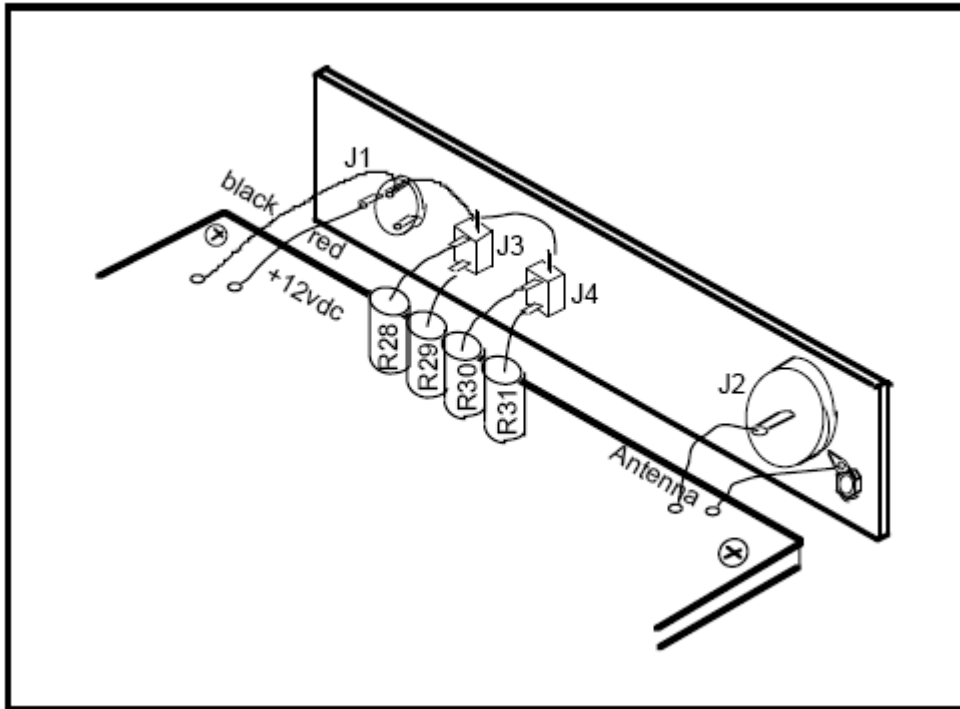

Figure 12. Rear panel wiring
14. □ Install one end of each fixed resistor R28-R31 on the PC board. The bottom of each resistor should be flush with the board. The other end of each resistor will be soldered later to the audio jacks (see Figure 12).
11. q Complete installation of resistors R28, R29, R30 and R31 as shown below. Leave a little extra lead length so that the resistor leads are not taut. Leave a little extra lead length so that the resistor leads are not taut. First solder R29 and R31 on the bottom tabs of the two audio connectors. Then solder R28 and R30 to the top horizontal tabs as shown in Figure 12.